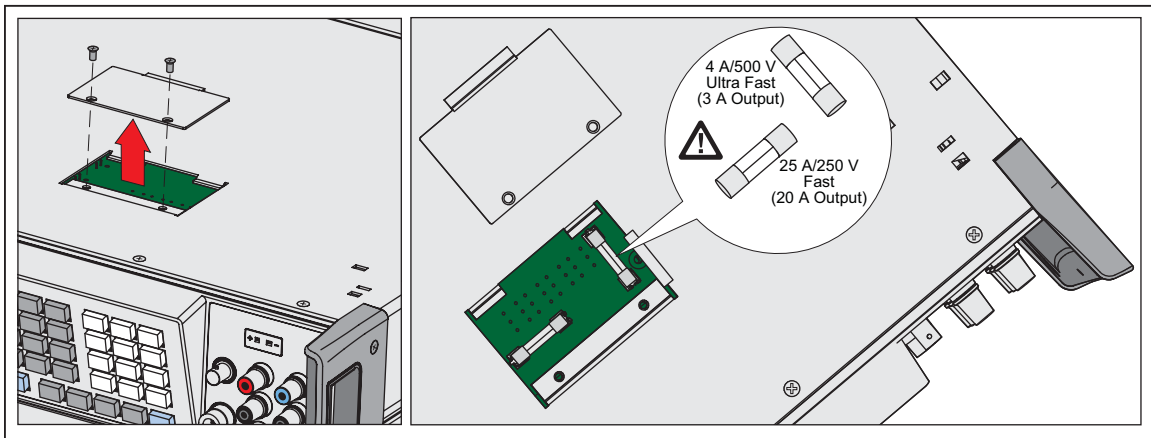

Figure 4-2. Current Fuse Replacement
2. Remove the two screws with a Phillips head screwdriver as shown in Figure 4-2.